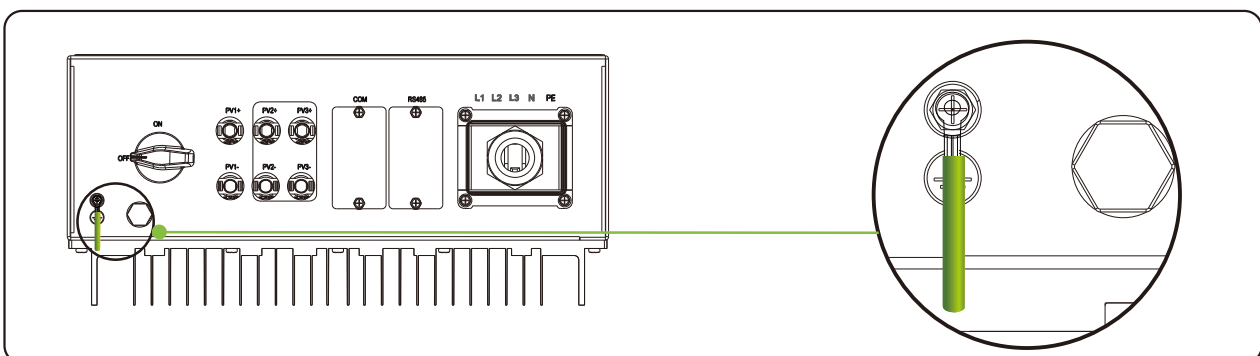

Figure 5.3 Securing the PGND cable
**Step 3** Secure the PGND cable (done by step1 & 2) using the ground bolts and tighten the bolts with a torque of 1.2 N.m using a socket wrench, as shown in Figure 5.3.